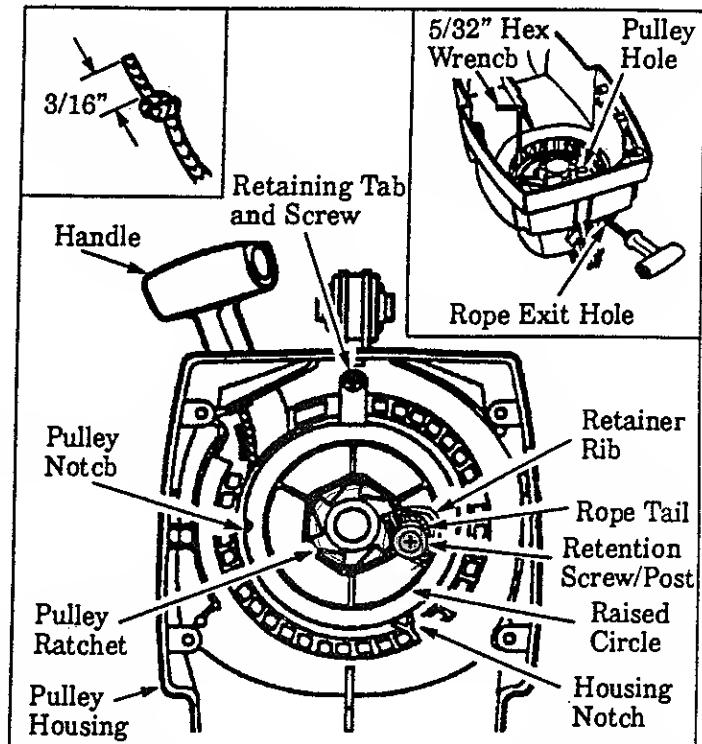

Figure 22
- Remove Retention Screw. Figure 22. Untie Rope around the Pulley Ratchet and pull the Rope out of the Pulley Housing. Figure 22.
- Position the Pulley Housing as shown in Figure 22. Hand turn the Pulley clockwise \rightarrow as far as it will go. Then, turn the Pulley counterclockwise \leftarrow until the Pulley Notch is aligned with the Housing Notch. Figure 22. Next, turn the Pulley one complete turn counterclockwise \leftarrow until the notches are aligned again.
- Insert the small hex wrench into the hole formed by the Notches to hold the Pulley in position. Figure 22 (inset-upper right).
- Insert one end of the Rope through the Handle and secure with a knot. Leave a 3/16" pigtail behind the knot. Figure 22 (inset-upper left).
- Insert the other end of the Rope through the Rope Exit Hole into the inside of the Housing, into the Pulley and up through the Pulley Hole. See Figure 22 (inset-upper right).
- Wrap Rope counterclockwise \leftarrow around the Pulley Ratchet and tuck loose end under Rope at the Pulley Hole. Leave a 1 inch tail laying flat on top of the Pulley between the Retainer Rib and the Retention Post. Figure 22.
- Re-install the Retention Screw. Pull firmly on the rope to tighten it against the Pulley Ratchet. The rope tail *must not* extend beyond the Raised Circle on the Pulley to prevent interference with the Retaining Tab. Figure 22.